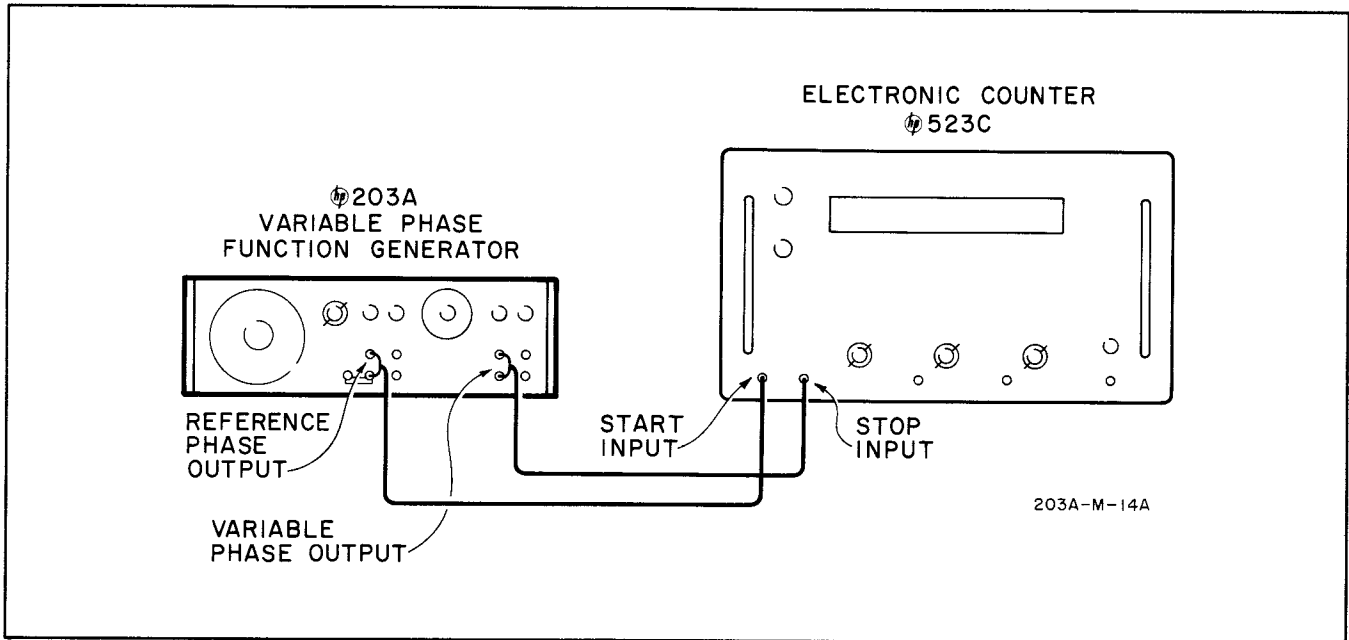

Figure 5-5. Phase Lag Check
d. Connect Model 203A as shown in figure 5-5.